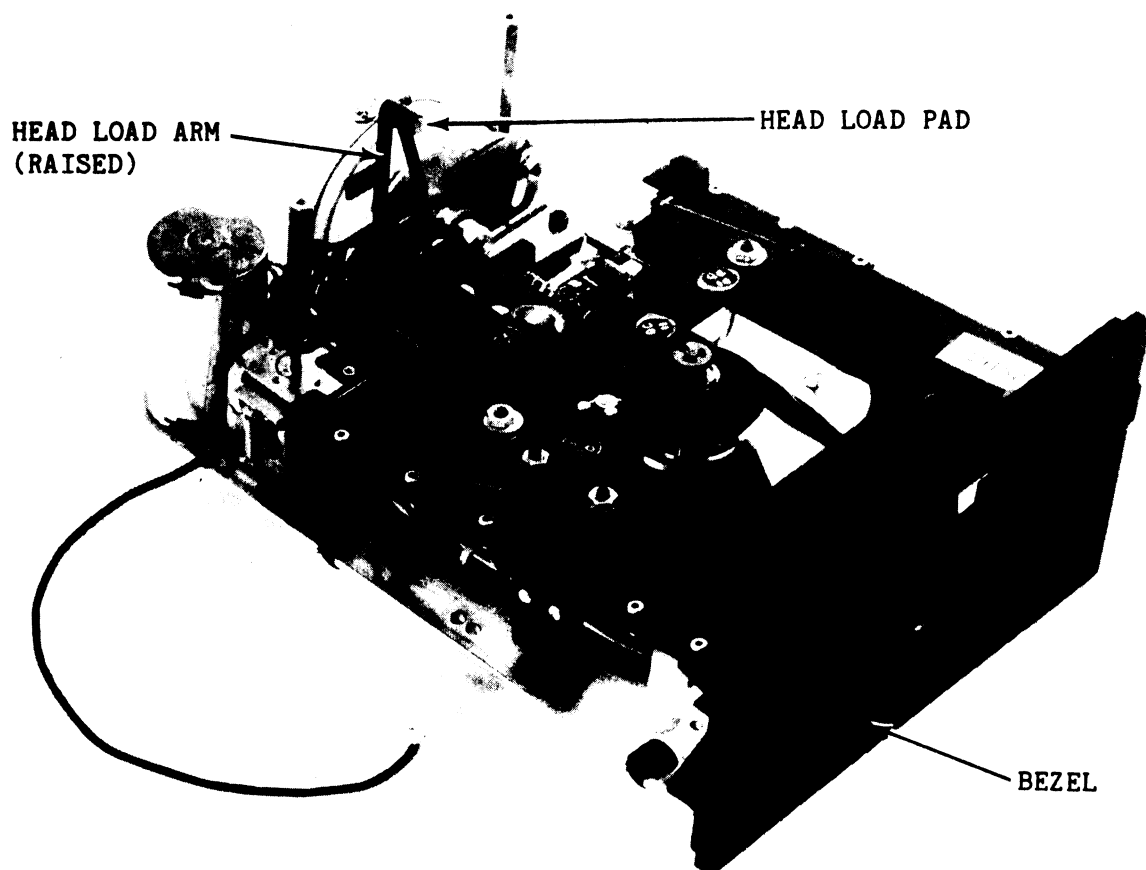

Figure 6-5. Head Load Arm and Pad
- b. Pivot the head load arm up until it is vertical and hold it in this position, using care to keep the spring and pins in place (see Figure 6-5).